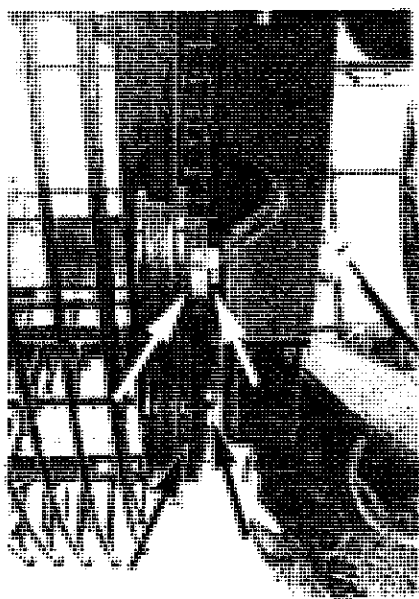
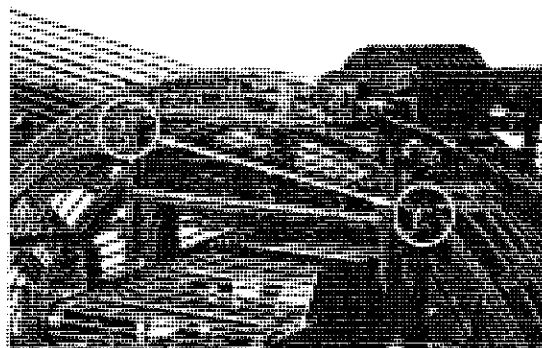

Figure 41. Wheel Elevator Roller Shim Locations
Figure 42. Top Front Wheel Elevator Rollers
1. Four large flanged rollers (two on the left side and two on the right - See Figure 41) must be in alignment and the wheel elevator must be parallel to the frame (within 1/4"). The wheel elevator should just contact the upper front rollers (see Figure 42). Remove or add shims (washers) to the lower rollers if required.
2. Two small solid rollers with bearings (Figure 42) guide the top of the elevator wheel on the front side of the harvester. The elevator wheel should just make contact with these rollers. Note that the roller on the right-hand side of the machine is adjustable.